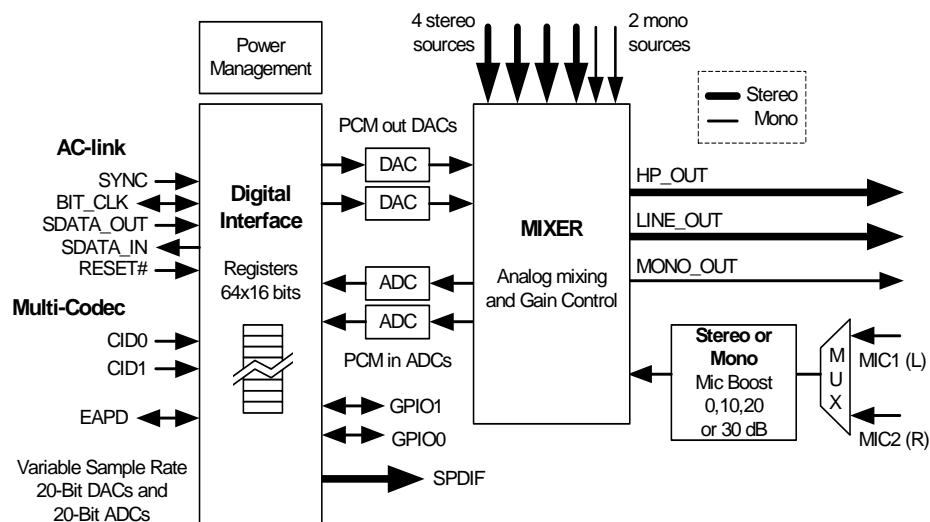

Figure 1. Block Diagram
The STAC9766/67 block diagram is illustrated in Figure 1. It provides variable sample rate Digital-to-Analog (DA) and Analog-to-Digital (AD) conversion, mixing, and analog processing. Supported audio sample rates include 48 kHz, 44.1 kHz, 32 kHz, 22.05 kHz, 16 kHz, 11.025 kHz, and 8 kHz; additional rates are supported in the STAC9766/67 soft audio drivers. All ADC's and DAC's operate at 20-bit resolution.